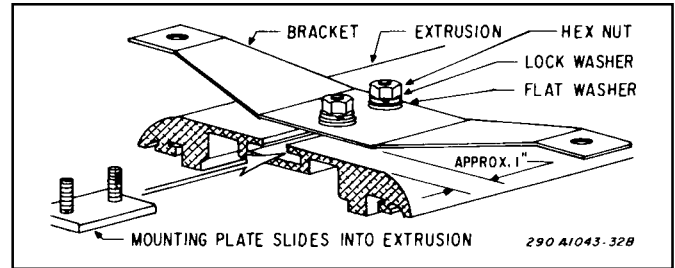

Figure 2.
C. Slide the two mounting plates into the slot in the extrusion as shown in figure 2. (One mounting plate for each mounting bracket.) Secure the bracket about 1-inch from the end of the extrusion.